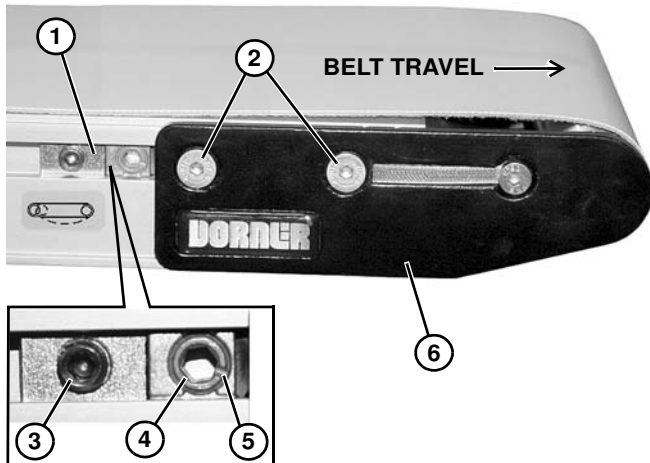

Figure 59
Non V-guided belt conveyors are equipped with belt tracking cam assemblies (**Figure 59, item 1**) for belt tracking adjustment.
1. Ensure headplate fastening screws (**Figure 59, item 2**) on both sides of conveyor are tightened.
2. On both sides of conveyor, loosen cam fastening screw (**Figure 59, item 3**). Adjust cams (**Figure 59, item 4**) until indicator slots (**Figure 59, item 5**) are horizontal and facing end of conveyor. Then slide cam assemblies against headplates (**Figure 59, item 6**) and re-tighten cam fastening screws (**Figure 59, item 3**) to 7 Nm.
3. On the side toward which the belt is tracking, loosen headplate fastening screws (**Figure 59, item 2**).
4. With the conveyor running, use a 5 mm hex-key wrench to rotate the tracking cam (**Figure 59, item 4**) in small increments until the belt tracks in the center of the conveyor. Then while holding the cam in position, re-tighten the headplate fastening screws (**Figure 59, item 2**) with a 4 mm hex-key wrench to 7 Nm.